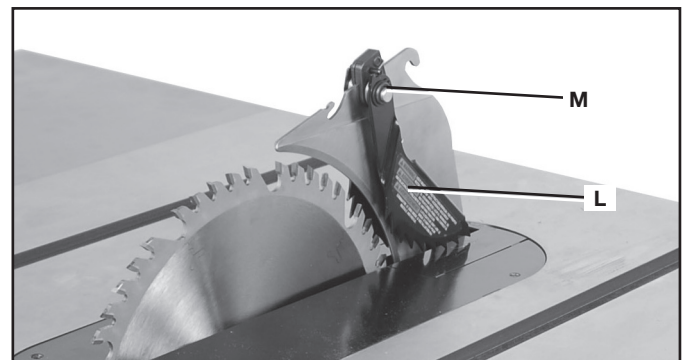

FIG. 11
2. Slide the anti-kickback assembly (L) along the top of the riving knife until the stem (M) Fig. 11 locates the slot above the mounting hole.
3. Depress the stem (M) on the anti-kickback assembly to allow the assembly to drop into the hole (K). Push down on the anti-kickback assembly until it snaps into place and locks.
4. **To remove anti-kickback assembly:** Depress the stem (M) Fig. 11 on the anti-kickback assembly and pull it up off the riving knife.